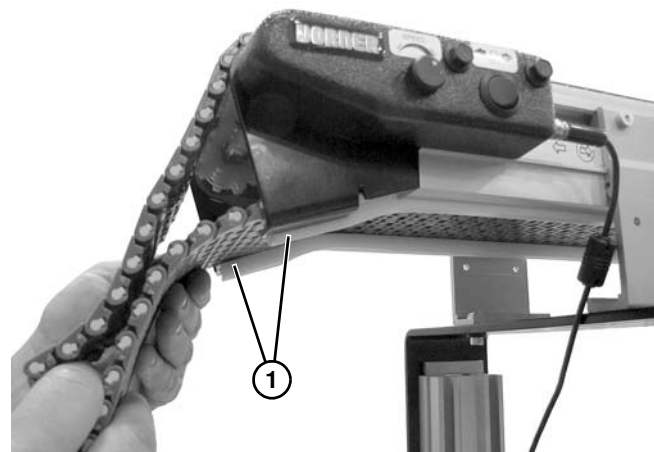

Figure 13
3. Feed belt into bottom wear strips (**Figure 13, item 1**) and pull through to the far end.